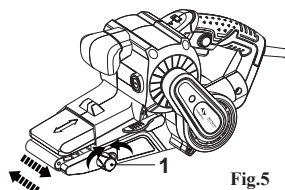

Fig.5
Before use, check that the sanding belt is centered. Centering of the sanding belt is necessary to ensure that it does not fly off the rollers. Turn the tool so that the belt is facing the operator. Start the tool and watch how the sanding belt is moving. If the sanding belt moves between the rollers in a two way direction, it will need to be centered before starting operation. Turn the belt centering knob (1) (Fig.5) clockwise or counterclockwise to adjust the belt stroke until it is centered. Turn the tool on for a short time. If the belt is still not centered, turn the belt centering knob (1) to center the belt precisely.